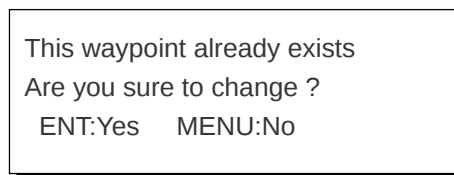

Figure 5-7
- ① Press [WPT RTE] and [6] to display the route list.
- ② Press ▲ or ▼ to select route number entered.
- ③ Press ►.
- ④ Enter waypoint number, in three digits.
- ⑤ Press ▼. If the waypoint number already exists the message shown in Figure 5-7 appears.